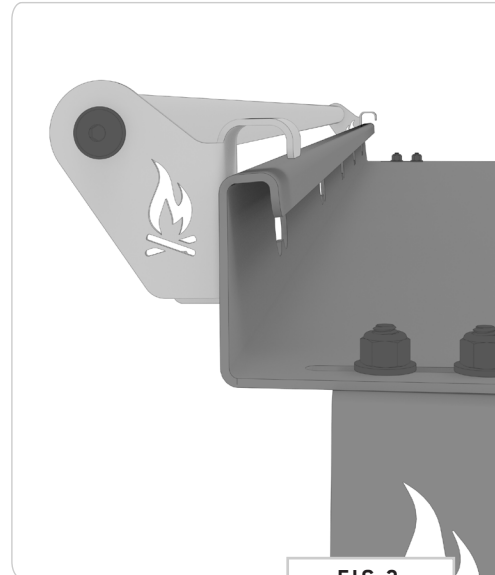

FIG 3
2.1 Position Curtain Rod: Hang the **Curtain Rod** on the **Headliner Shelf** (FIG 3). Position the **Curtain Rod** so that it is centered.